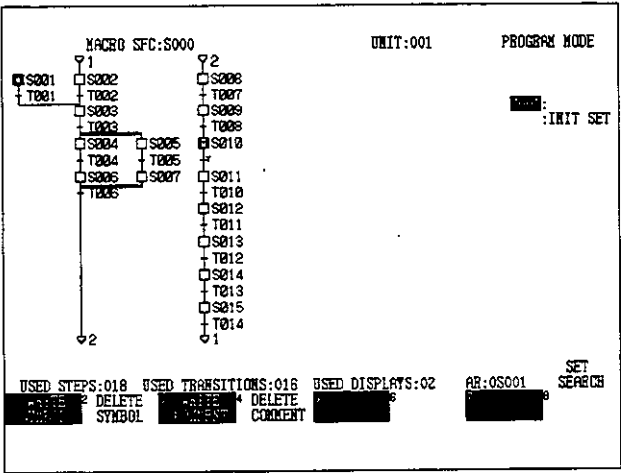

Figure 7.113
- 1) Display the SFC Screen shown in Figure 7.113.